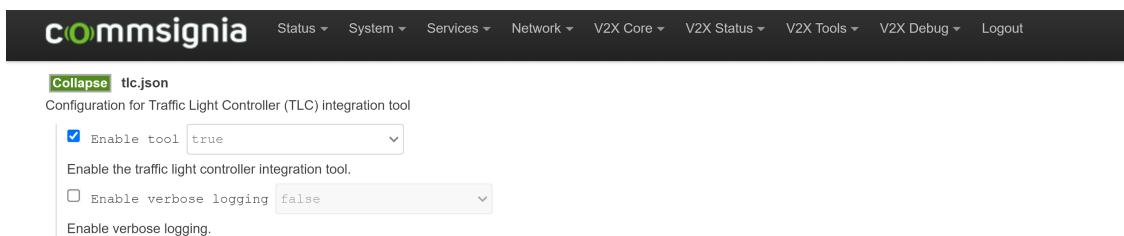

Figure 32. TLC configuration page
- To enable the transmission of SPaT content from the connected TLC, open the **V2X Tools** → **TLC** menu, check the box near `Enable tool`, and set it to `true`, as shown in Figure 32.